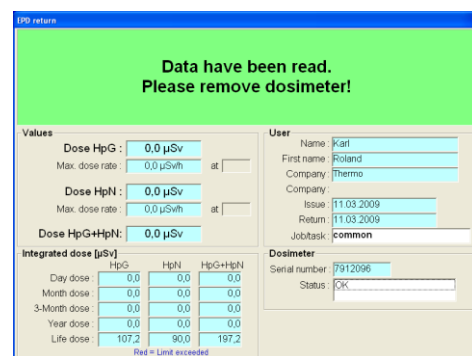

Figure 5
11. The dose is shown on the display and is stored in a database (Fig. 5).